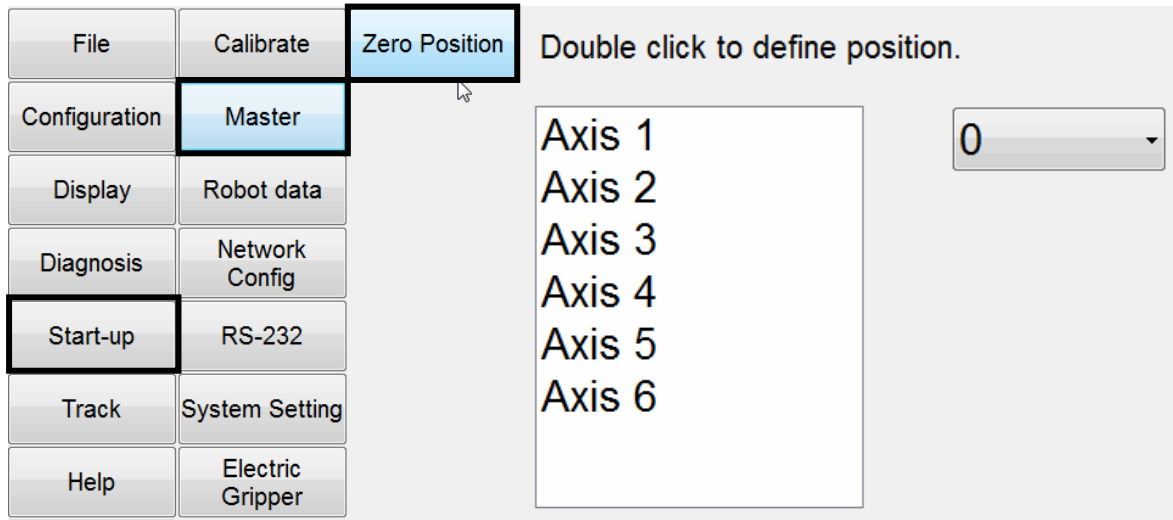

Figure 4-8 Clear encoder by HRSS
④ Clear encoder by HRSS
Step4. Double click the axis to clear encoder. (As shown in Figure 4-8)